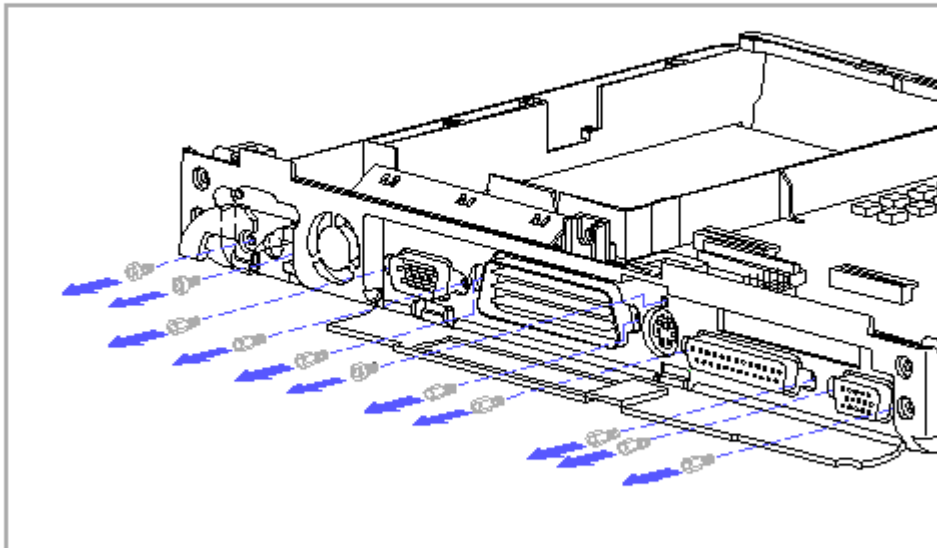

Figure 4-44. Removing the I/O Connector Screws and Screwlocks
11. Remove the eight screwlocks that attach the rear I/O connectors to the I/O bracket (Figure 4-44).
12. Remove the screw that attaches the keyboard/mouse connector to the I/O bracket (Figure 4-44).
13. Remove the two screws that attach the Automobile Adapter connector to the I/O bracket (Figure 4-44).
NOTE: The screws for the Automobile Adapter connector are located under the Automobile Adapter door at the left rear of the computer (Figure 4-44).